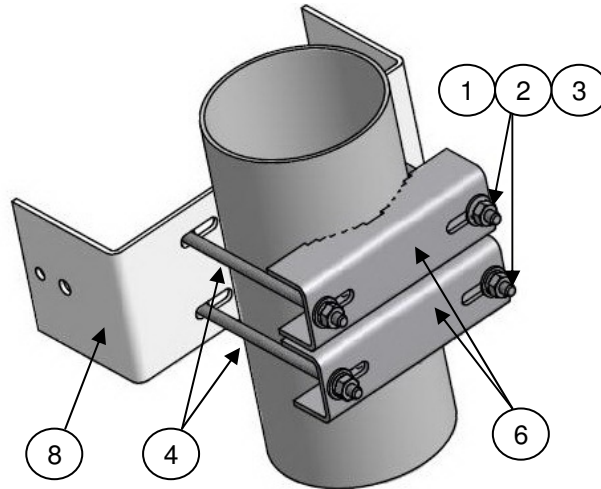

Fig. 2
1.2 Put on each of the 4 Antenna's studs Plain Washer item 3, Spring Washer item 2 and screw them with Nut item 1. Tighten the 4 Nuts at a torque of 50 lb*in.
2.1 Place 2 Clamps item 6 & Base item 8 touch to the Pole (**Fig. 2**).